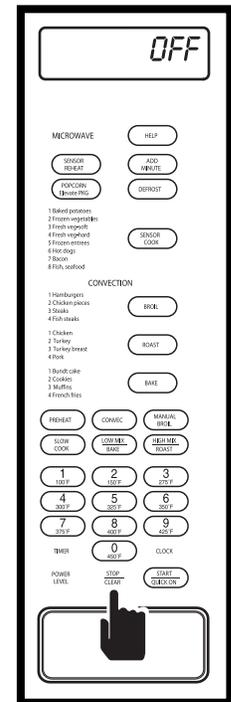

Figure 3-70.
6. When the STOP/CLEAR key is pressed at this time, the display will flash “DEMO - OFF” (See Figure 3-70) and then show time of day.